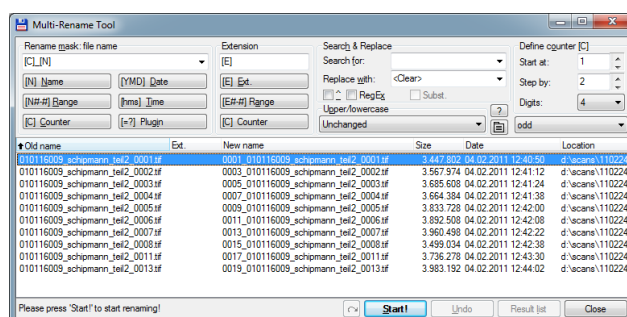

Figure 17 – Total Commander - settings in the batch renaming tool
- Change the **settings** like this (see also figure 17):